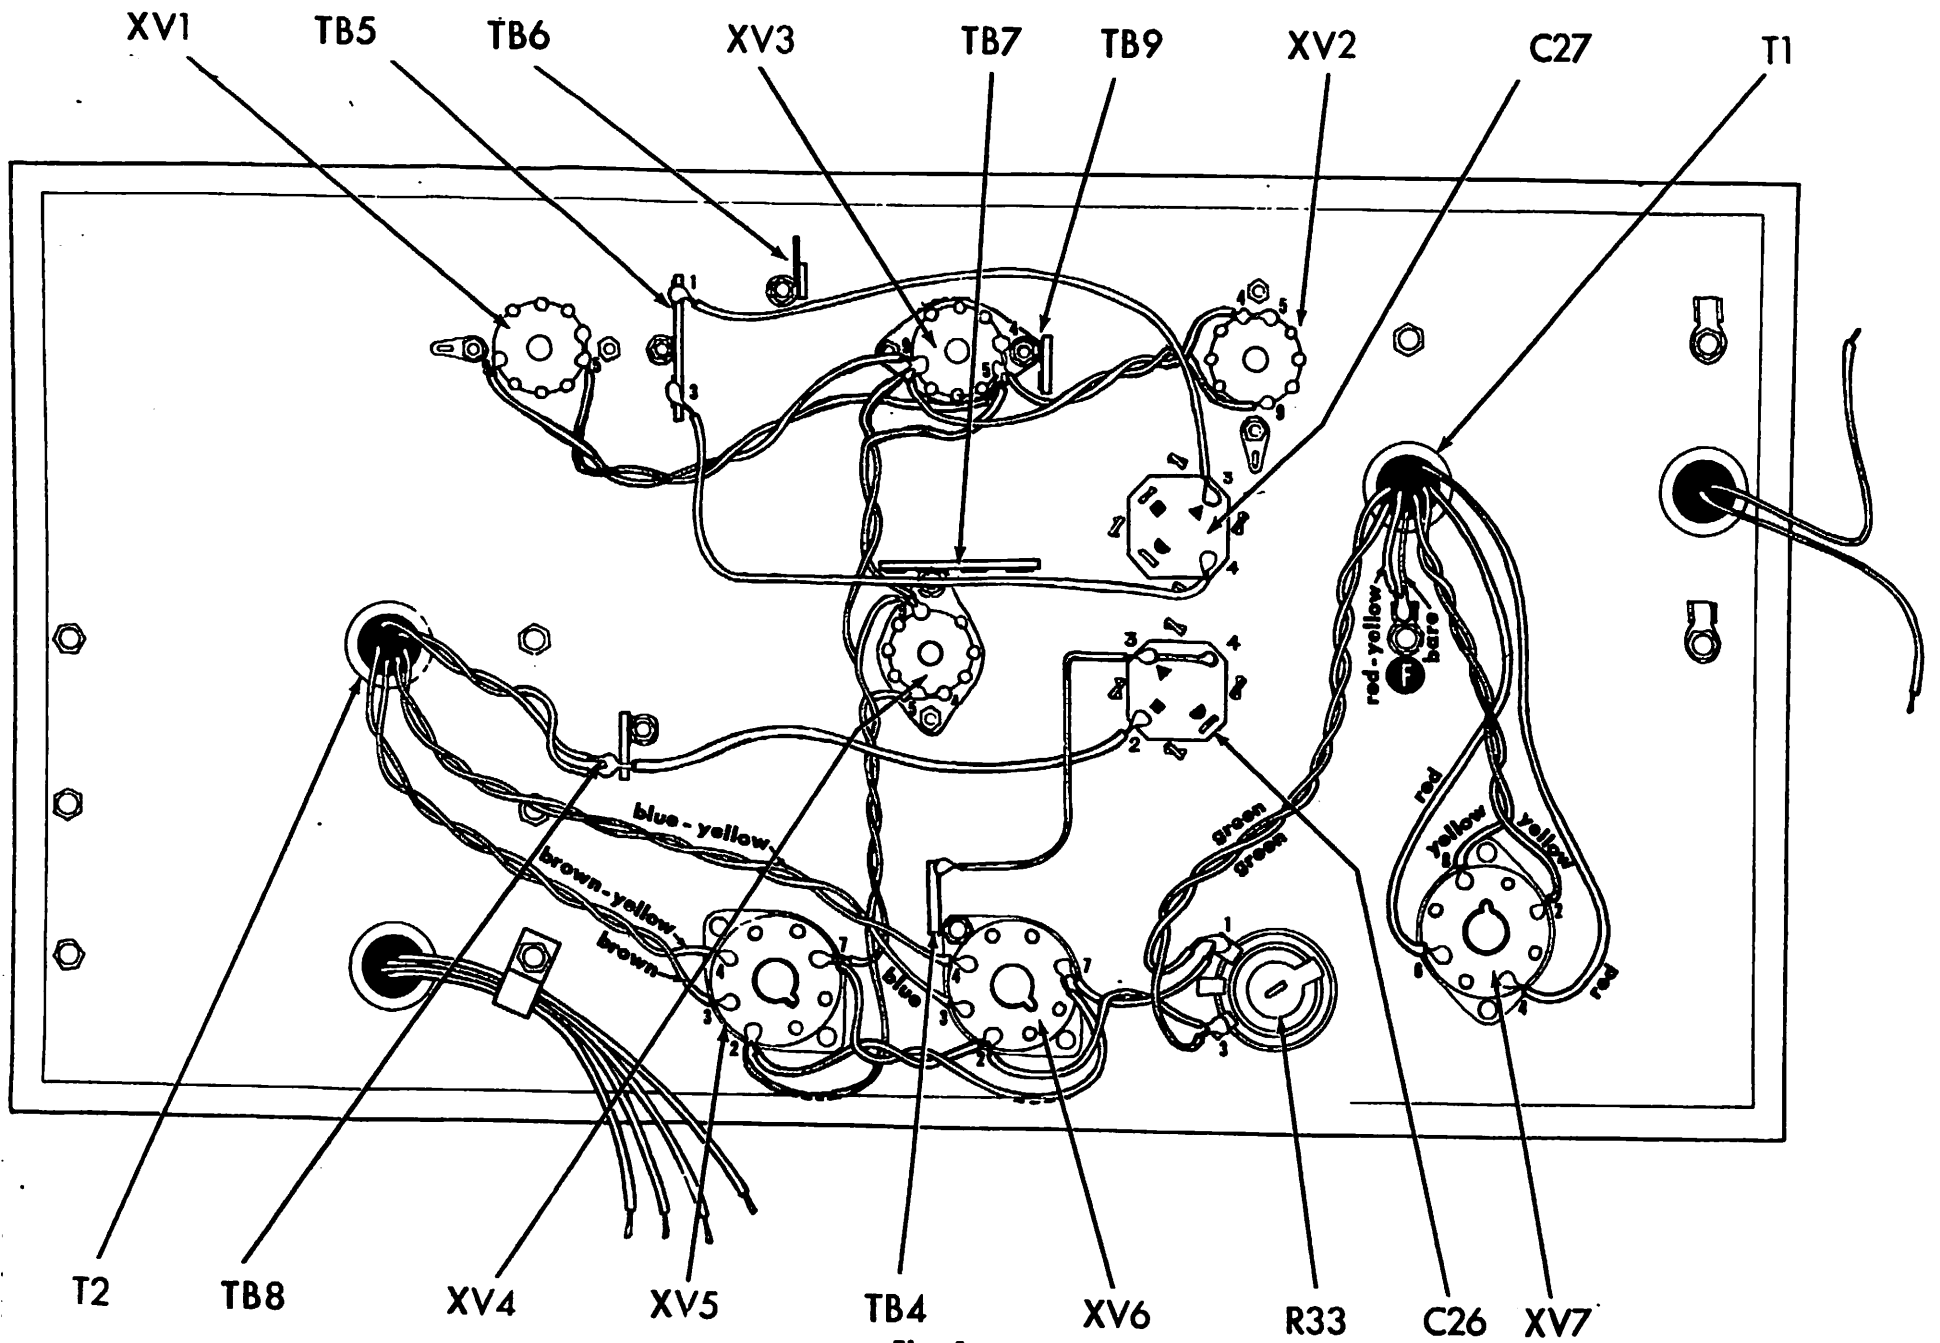

Fig. 1
INSERT DRAWINGS - FOR FIG. 1
- () Fig. 1. Mount sockets with shield supports XV1 & XV2 as shown. Use two #4-40 screws, two #4 hex nuts, one #4 lockwasher and one #4 ground lug per socket. See insert drawing B.
- () Fig. 1. Mount socket, XV3, as shown. Use two #4-40 screws, two #4 hex nuts and two #4 lockwashers. Mount a one post right with ground terminal strip, TB9, under one lockwasher at one end of socket. See insert drawing E.
- () Fig. 1. Mount socket, XV4, as shown. Use two #4-40 screws, two #4 hex nuts and two #4 lockwashers. Mount a three post, two right with ground terminal strip, TB7, under one lockwasher at one end of socket. See insert E.
- () Fig. 1. Mount the 100Ω open pot., R33, as shown. Use one 3/8" hex nut, one fiber flat washer and one fiber shoulder washer. Be careful that the pot does not short against the chassis. See insert drawing D.
- () Fig. 1. Mount the power transformer, T1, as shown. The black leads must come through the hole nearest the side. Use four #10-24 screws, four #10 hex nuts, four #10 flatwashers and four #10 lockwashers. Mount three #10 ground lugs under three of the lockwashers. See insert drawing A.
- () Fig. 1. Mount the output transformer, T2, as shown. The hole with the four leads should be at the rear of the chassis. Use six #10-24 screws, six #10 hex nuts, six #10 flat washers and six #10 lockwashers. Use the cable clamp installed under the mounting nut shown to gather the 4 leads referred to above.
- () Fig. 1. Mount a one post left terminal strip, TB8, a two post with ground terminal strip TB5 and a two post upright terminal strip TB6 as shown. Use one #6-32 screw, one #6 hex nut and one #6 lockwasher per terminal strip.
- () Fig. 1. Mount the electrolytic capacitors, C26 and C27, as shown. Note carefully the position of the three code markers (triangle, semi-circle and square) next to the prongs of the capacitor. Insert the mounting tabs into the slots in the chassis and twist the tabs somewhat less than a quarter turn. DO NOT twist the tabs excessively or they will shear off.
- () Fig. 1. Mount sockets, XV5, XV6, and XV7 as shown. Use two #6-32 X 3/8 screws, two #6 hex nuts and two #6 lockwashers. Mount a one post right terminal strip, TB4, with XV6. See insert drawing E.
- () Fig. 1. Twist the two green leads from the power transformer, T1, and connect one lead to R33-1 (C) and the other to R33-3 (C).
- () Fig. 1. Connect a yellow lead from R33-1 (S) to XV6-7 (C).
- () Fig. 1. Connect a brown lead from R33-3 (S) to XV6-2 (C).
- () Fig. 1. Cut and strip the ends of one 5" length of yellow wire and one 5" length of brown wire. Connect one end of the yellow lead to XV6-7 (S) and one end of the brown lead to XV6-2 (S). Twist the two leads. Connect the other end of the yellow lead to XV5-7 (C) and the other end of the brown lead to XV5-2 (C).
() Fig. 1. Following the above procedure, cut and strip a 6" length of brown wire and a 5" length of yellow wire. Connect the yellow lead to XV5-7 (S) and the brown lead to XV5-2 (S). Twist the two leads. Connect the yellow lead to XV4-9 (C). Pass the brown lead through XV4-5 (C) to XV4-4 (S).
() Fig. 1. Following the above procedure, cut and strip a 3" length of yellow wire and a 5" length of brown wire. Connect the yellow lead to XV4-9 (S) and the brown lead to XV4-5 (S). Twist the two leads. Connect the yellow lead to XV3-9 (C) and the brown lead through XV3-5 (C) to XV3-4 (S).
() Fig. 1. Following the above procedure, cut and strip a 5" length of yellow wire and a 5" length of brown wire. Connect the yellow lead to XV3-9 (C) and the brown lead to XV3-5 (C). Twist the two leads. Connect the yellow lead to XV2-9 (S) and the brown lead through XV2-4 (S) to XV2-5 (S).
() Fig. 1. Following the above procedure, cut & strip a 7" length of yellow wire and a 7" length of brown wire. Connect the yellow lead to XV3-9 (S) and the brown lead to XV3-5 (S). Twist the two leads. Connect the yellow lead to XV1-9 (S) and the brown lead through XV1-5 (S) to XV1-4 (S).
() Fig. 1. Twist the yellow leads of the power transformer T1 and connect to XV7-2 (S) and XV7-8 (C).
() Fig. 1. Twist the red leads of the power transformer T1 and connect to XV7-4 (S) and XV7-6 (S).
() Fig. 1. Connect the red-yellow lead and the bare lead of the power transformer T1 to ground lug "F" (S).
() Fig. 1. Twist the red and red-yellow leads of the output transformer T2 and connect to TB8 (C).
() Fig. 1. Connect a blue lead from TB8 (C) to C26-2 (C).
() Fig. 1. Twist the blue and blue-yellow leads of the output transformer T2. Connect the blue lead to XV6-3 (S) and the blue-yellow lead to XV6-4 (S).
() Fig. 1. Twist the brown and brown-yellow leads of the output transformer T2. Connect the brown lead to XV5-3 (C) and the brown-yellow lead to XV5-4 (S).
() Fig. 1. Connect a 6" blue lead from TB5-1 (C) to C27-3 (C).
() Fig. 1. Connect an 8" blue lead from TB5-3 (C) to C27-4 (C).
() Fig. 1. Connect one end of a 4" blue lead to TB4 (C). Pass the other end thru C26-3 (C) and connect to C26-4 (C).